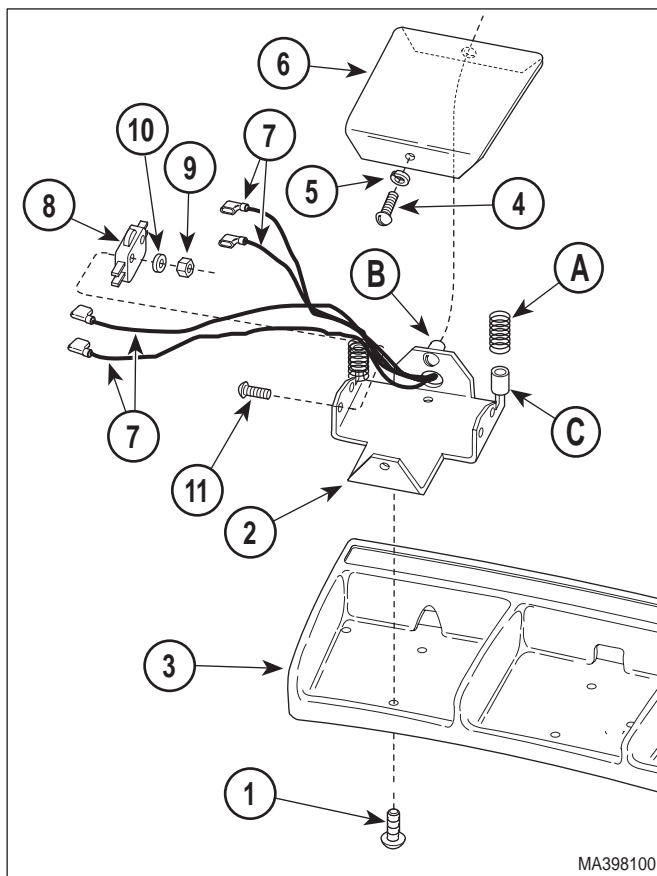

Figure 4-30. Typical Foot Switch Removal / Installation
- (1) Unplug table power cord from outlet.
- (2) Remove two screws (1, Figure 4-30) and partially separate foot switch bracket (2) from foot control casting (3).
- (3) Remove screw (4), spacer (5), and pedal (6) from foot switch bracket (2).
- (4) Tag and disconnect four wires (7) from terminals of foot switch (8).
- (5) Remove two nuts (9), washers (10), screws (11), and foot switch (8) from foot switch bracket (2).